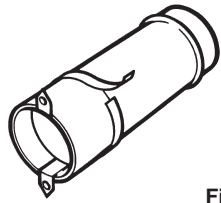

Fig. 64
6. Refit the end piece to the liner and open out to the thickness of the wall. Seal the two pieces together using the tape provided with the kit (Fig. 64).